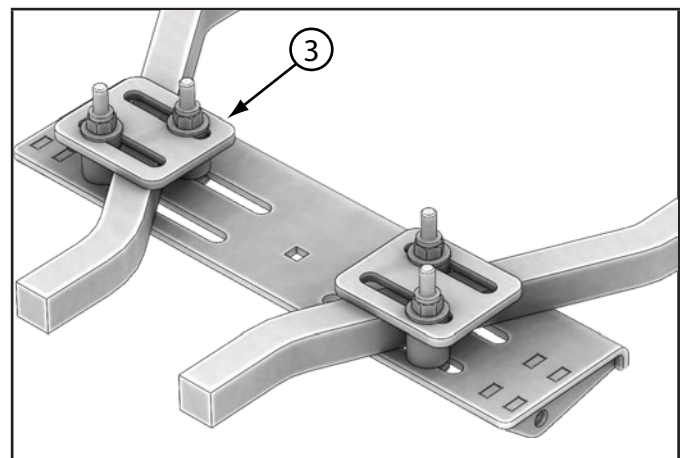

Figure 22 - Hybrid Mount Square Tube Install Using Spacer Plates
If the upper mount plate (2) doesn't fit because of obstruction you may substitute the spacer plates (3) for the upper mount plate as shown in Figure 22.